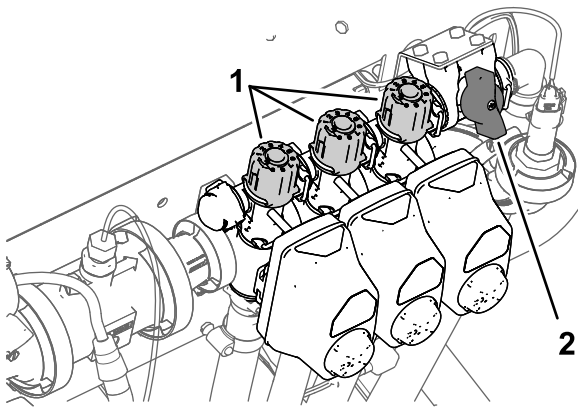

Figure 26
2. Turn off the left-section switch and adjust the section-bypass knob (Figure 26) until the rate displayed is at the previous level according to the table.
4. Adjust the right section-bypass knob (Figure 26) until the rate displayed is at the previous level according to the table.
6. Adjust the center section-bypass knob (Figure 26) until the rate displayed is at the previous level according to the table.